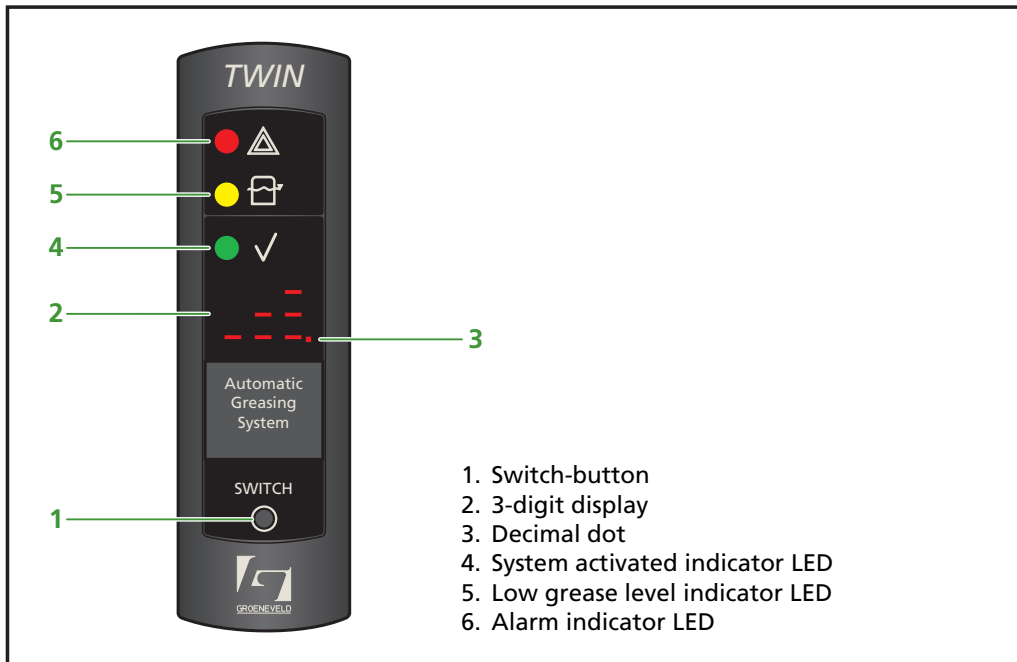

Figure 2.17 Twin-3 display
With the switch-button (1) the desired operating/test mode can be selected and also errors can be reset (see Figure 2.17). The Twin-3 display is equipped with a 3-digit display (2). Herewith errors, the active duty mode and test mode (if applicable) can be displayed. The decimal dot (3) indicates whether the interval timer remains or is on standby (see paragraph 2.8.1). The green LED (4) indicates that the system is activated. The yellow LED (5) indicates when the minimum grease level has been reached. The red LED (6) indicates a malfunctioning.